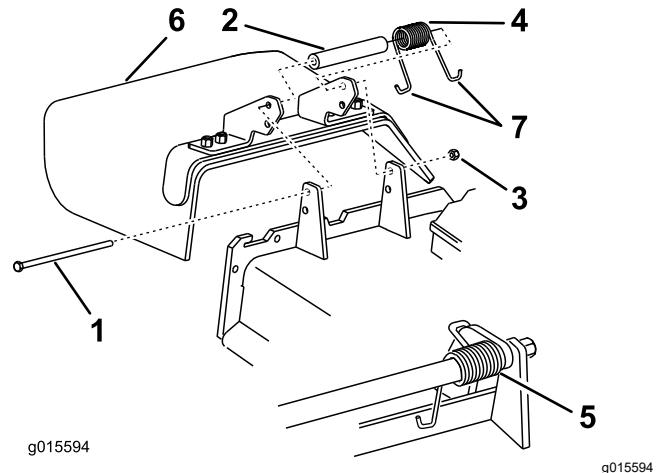

Figure 91
1. Remove the locknut, bolt, spring, and spacer holding the deflector to the pivot brackets (Figure 91).
2. Remove the damaged or worn grass deflector (Figure 91).
Note: Make sure that 1 J-hook end of the spring is installed behind the deck edge before installing the bolt as shown in Figure 91.
6. Place 1 J-hook end of the spring around the grass deflector (Figure 91).